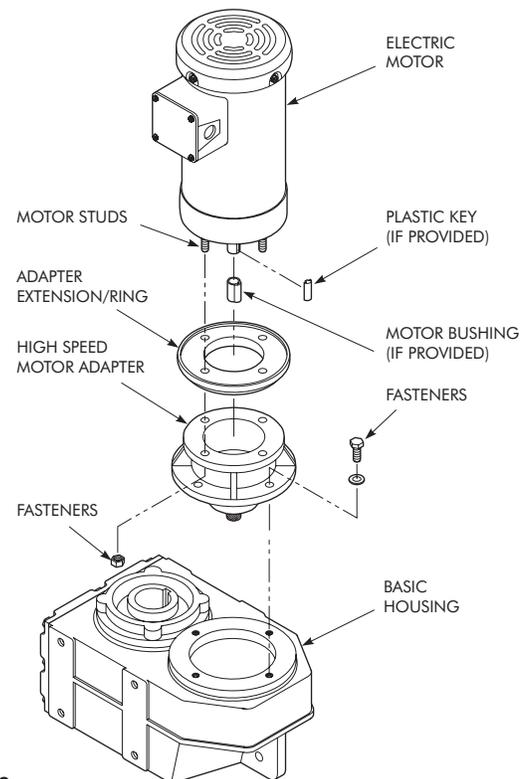

FIGURE 2
PROCEDURE G & H — Figure 2
1. Place basic housing on a workbench so that high speed end is facing up as illustrated in Figure 2. If necessary, block housing so that it is stable and level.
PROCEDURE G & R — Figure 2
1. Place basic housing on a workbench so that high speed end is facing up as illustrated in Figure 2, Page 3. If necessary, block housing so that it is stable and level.